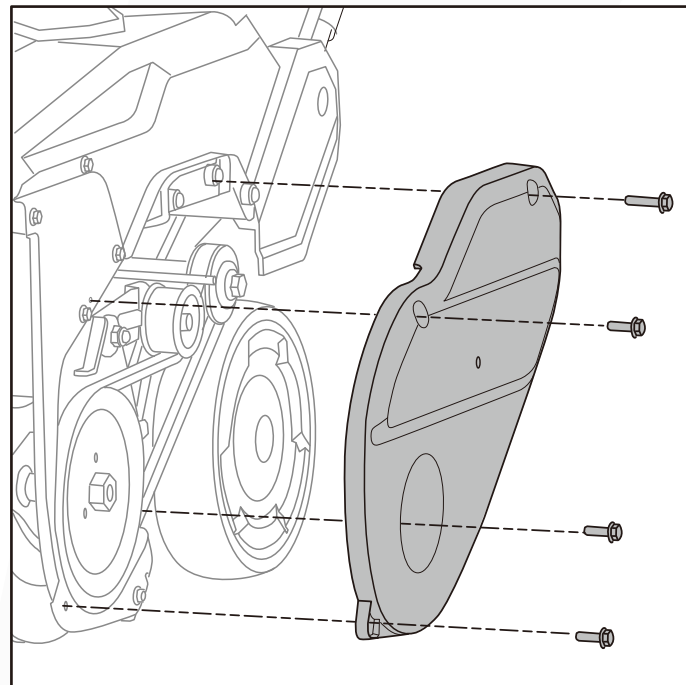

Fig.16A
4. Detach the belt cover by removing four screws that secure it to the frame. (Fig.16A)